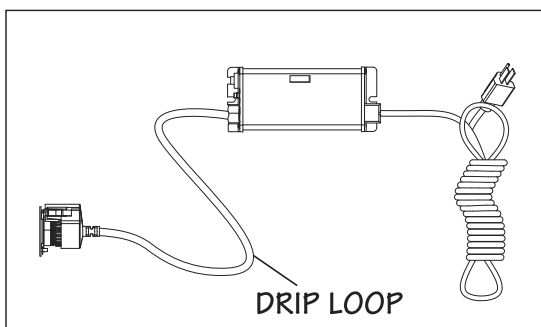

Figure 5 Drip Loop
- The controller should be mounted either above or beside the chamber. Always mount controller horizontally to prevent moisture from running down cordage and causing a potential fire hazard. Drip loops in all cordage connected to controller is highly recommended. Refer to Figure 5.
4. Mount the VIQUA ICE controller horizontally to the wall, near the chamber. Ideally place the controller above the chamber and away from any water connection point, to prevent any water from potentially leaking onto the controller by means of a leak at a connection point or a "sweating" system. Make sure you allow for a "drip-loop" as shown in Figure 5 on the lamp, sensor, and power cord, again, to prevent any water from potentially entering the controller.